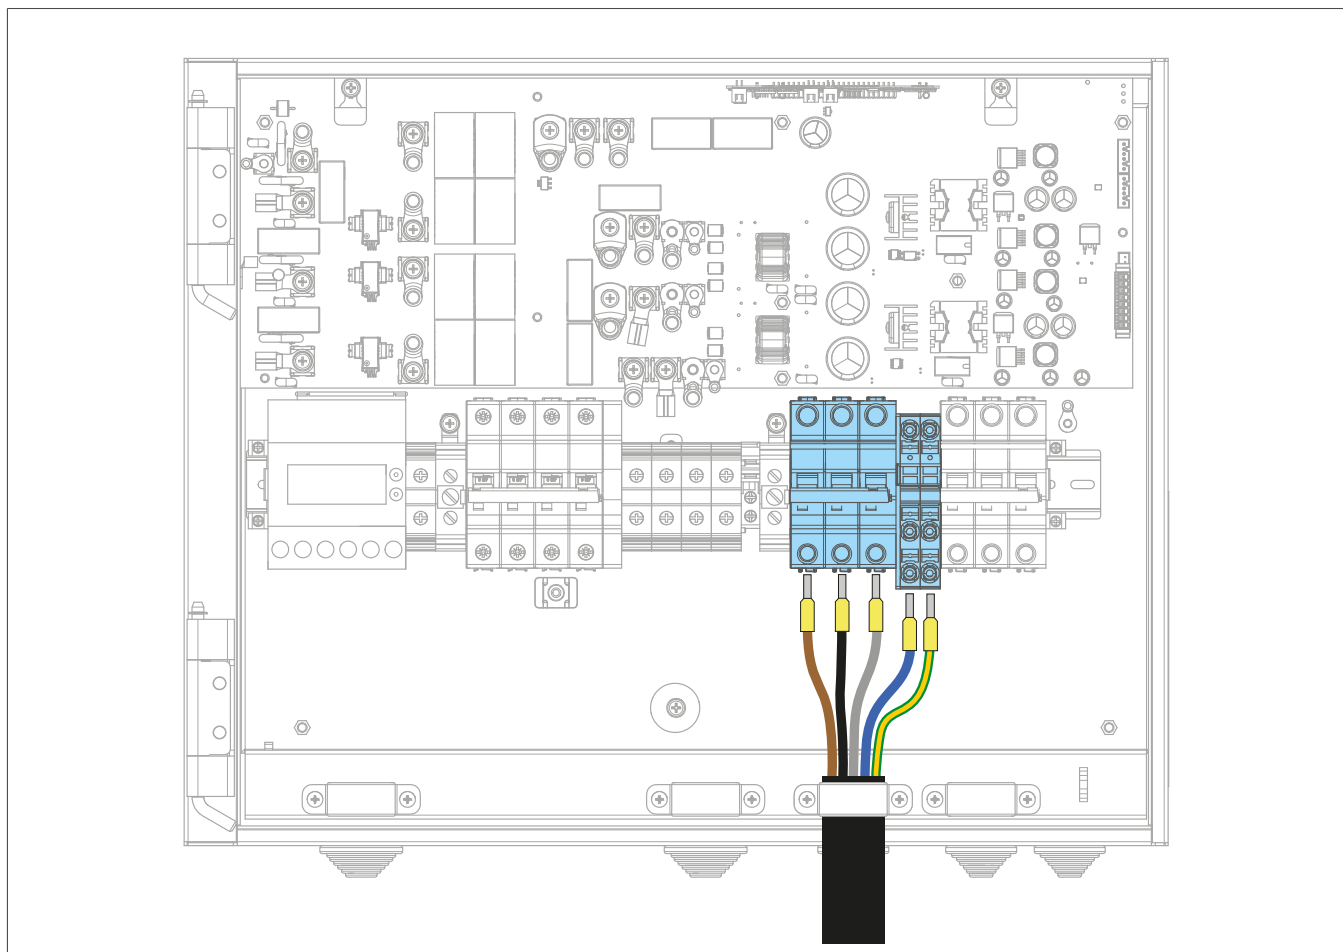

Fig. 29: Connecting the inverter
- ③ Route the cable through the cable entry on the underside of the housing and through the strain relief in the housing.
- ④ Tighten the screws on the strain relief with a tightening torque of 1.8 Nm.
- ⑤ Connect the cores (see Fig. 29).
- ⑥ Tighten the cores with a tightening torque of 2.8 Nm.